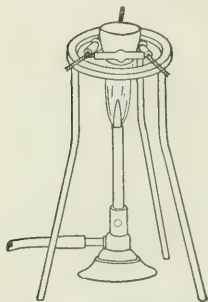

Fig. 16. Heating a crucible on a pipe-stem triangle.
**a.** Weigh a clean, dry porcelain crucible (without cover) to the nearest centigram (0.01 g.). Wind about 5 meters of copper wire around a pencil; place the coil in the crucible and weigh the whole as before. Support the crucible on a pipe-stem triangle (Fig. 16) and heat, at first gently and then with